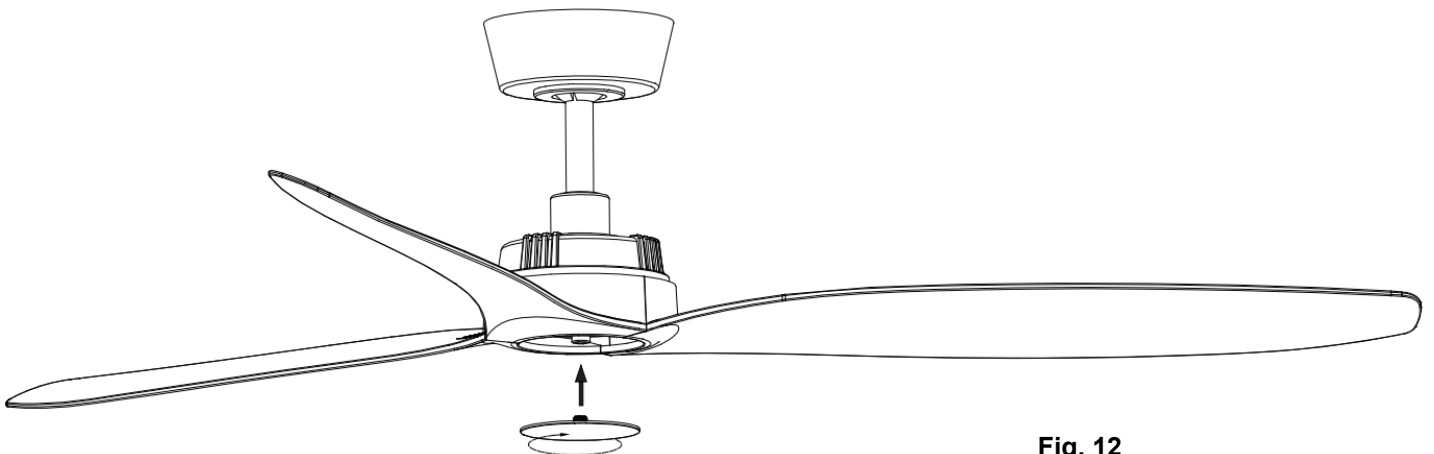

Fig. 12
**INSTALLATION OF BOTTOM COVER (Fig. 12)**